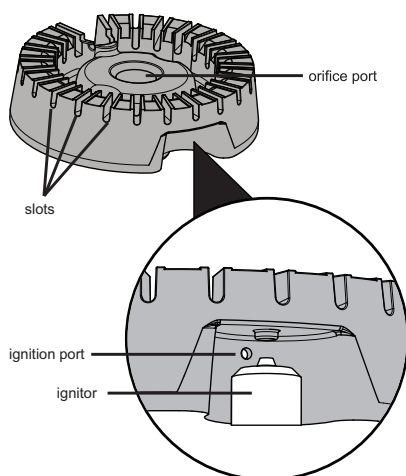

Figure 36: Burner head areas to clean
4. Use a needle or paper clip to clean out the ignition port (Figure 36).